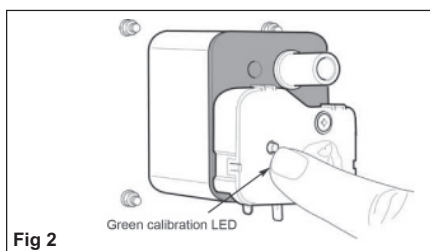

Fig 2
- Step 1 - Press and hold the calibration button until the green LED starts to flash after 1-3 seconds (Fig. 2)